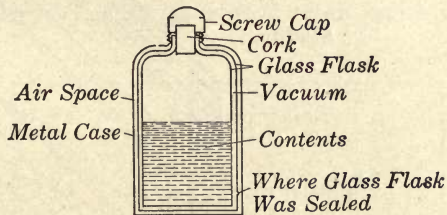

FIGURE 29.—CROSS SECTION OF A THERMOS BOTTLE.
53. The Thermos Bottle. — The thermos bottle consists of a double glass flask with the outside silver-coated (Figure 29). The space between the walls of the flask is a vacuum, the air having been pumped out. The flask is then placed inside of an outer cover, which is either silver or nickel